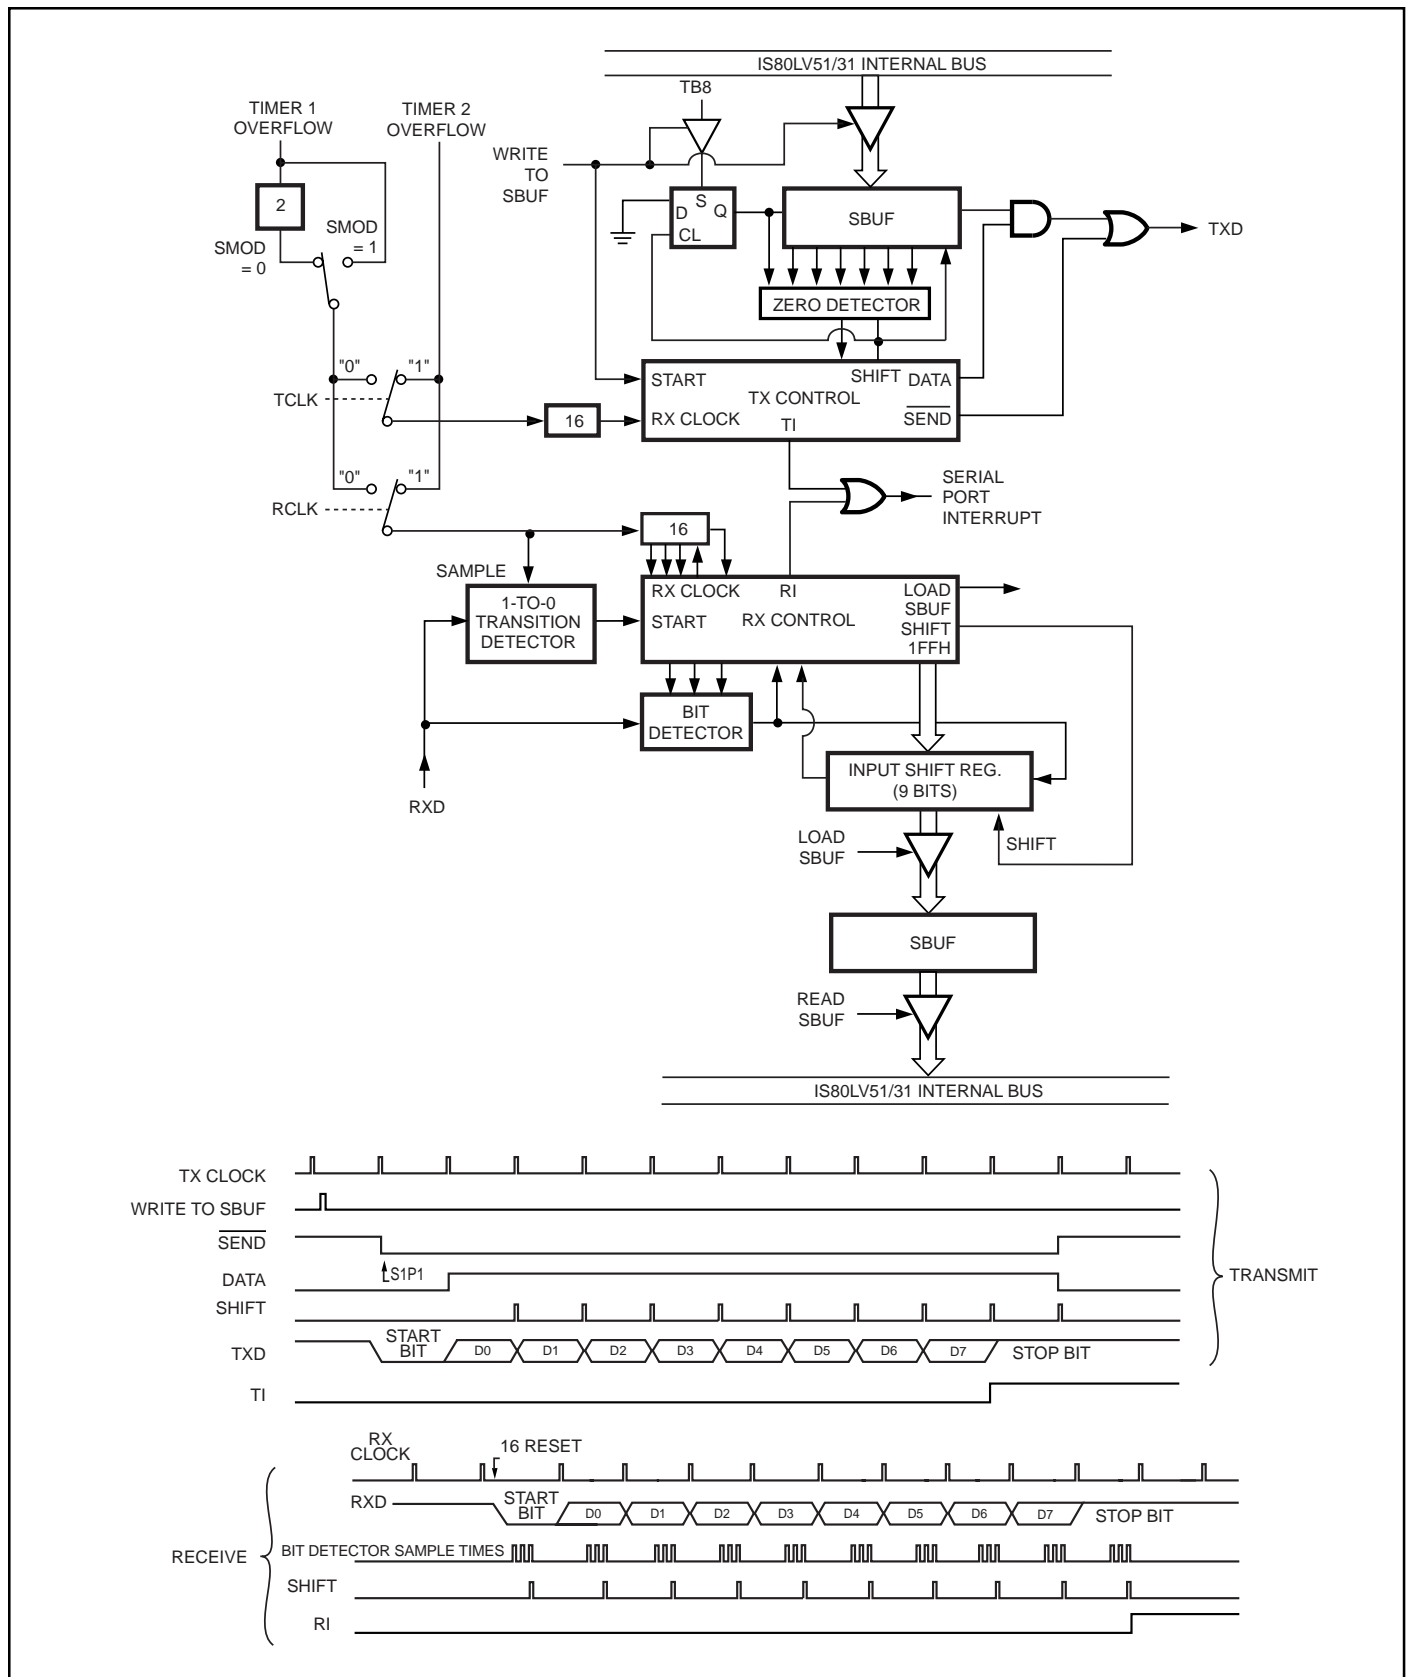

Figure 13. Serial Port Mode 1
Ten bits are transmitted (through TXD) or received (through RXD): a start bit (0), eight data bits (LSB first), and a stop bit (1). On receive, the stop bit goes into RB8 in Special Function Register SCON. The baud rate is variable (see Figure 13).